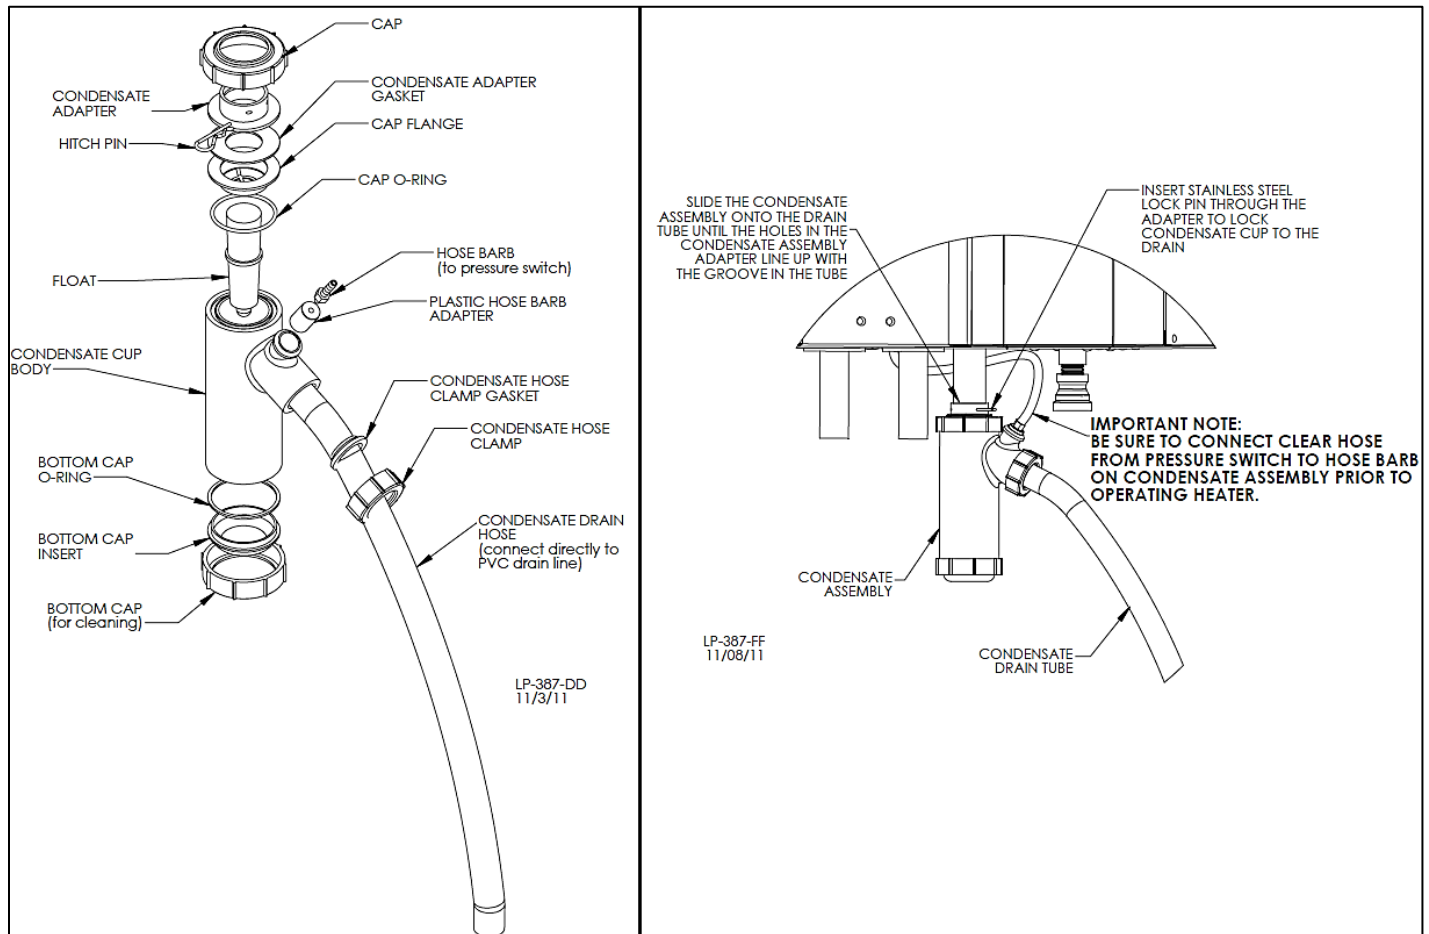

Figure 15-1 - Condensate Detail, 15-2 – Condensate Trap Installation
1. Ensure all parts shown in Figure 15-1, Condensate Detail, are included with the condensate trap. If any parts are missing, DO NOT install the trap. Replace the entire condensate assembly.